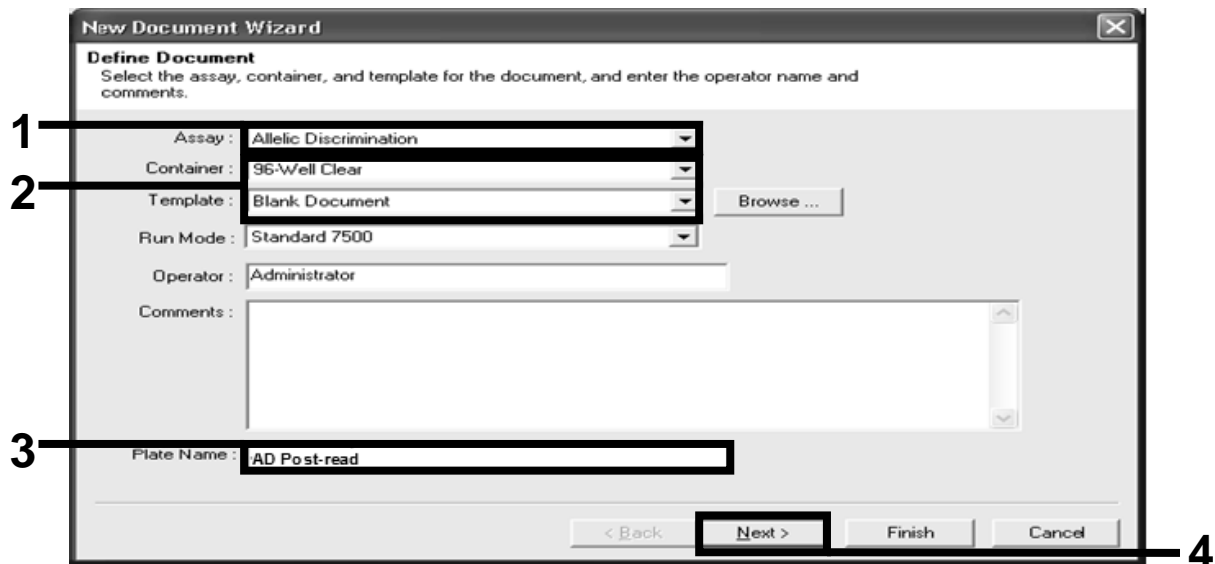

Figure 13. Pre-settings for creating a new post-read run (New Document Wizard).
- 12. In the "New Document Wizard" dialog box, click the "Assay" drop-down list, and select "Allelic Discrimination" (Figure 13).**
- 13. Accept the default settings for the "Container" and "Template" fields ("96-Well Clear" and "Blank Document", Figure 13). In the "Plate Name" field, type *AD Post-read* (Figure 13), and then click "Next>" to access the "Select Markers" dialog box.**